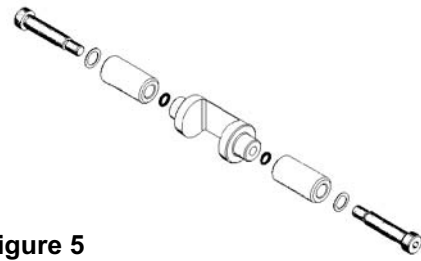

Figure 5
1. Plunger / Connecting Rod Assembly: (Fig. 5)